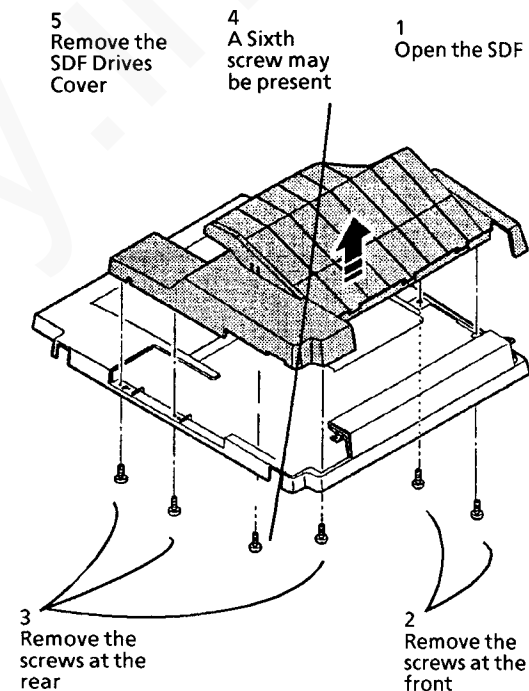

Figure 1. Removing the SDF Drives Cover
2. Remove the SDF Drives Cover (Figure 1).